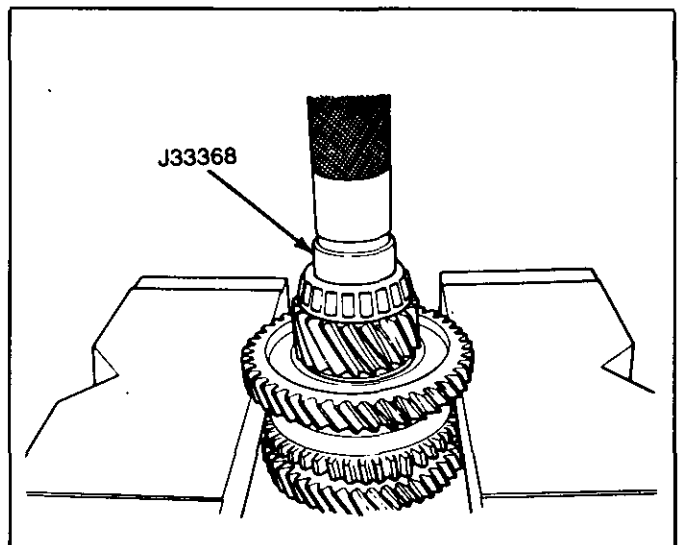

Figure 37 Front Brg. Output Shaft
5. Press the front bearing on the shaft using J-33368 and a press (Figure 37).